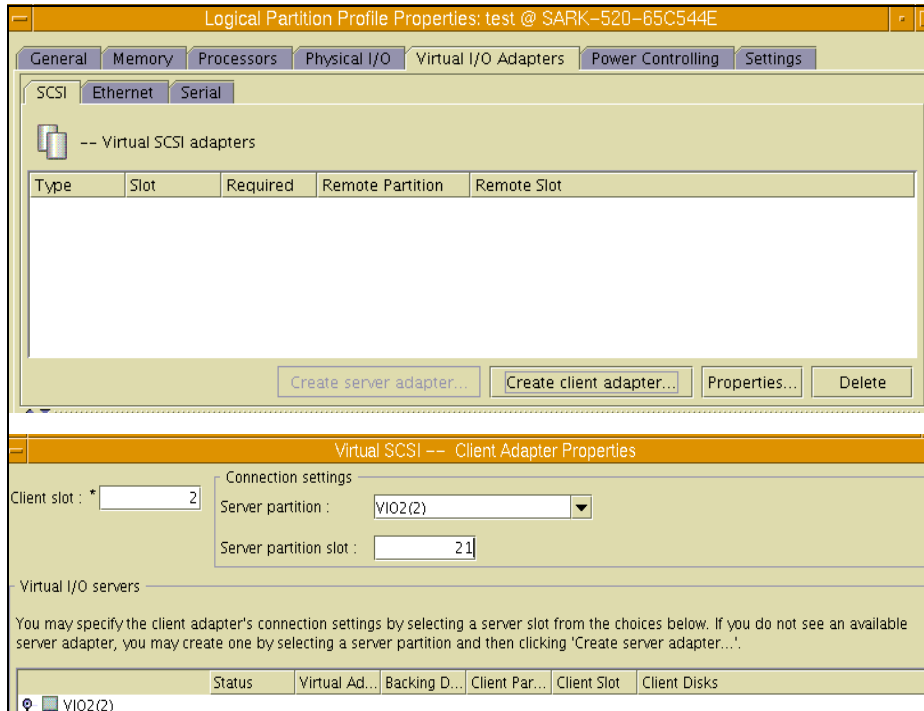

Figure 4-24 Create Virtual SCSI on VIO client
6. After completing the VIO server profile, proceed to the VIO client profile. The steps involved are very similar. Select **Create client adapter...**; Figure 4-24 illustrates the Virtual SCSI on the client.